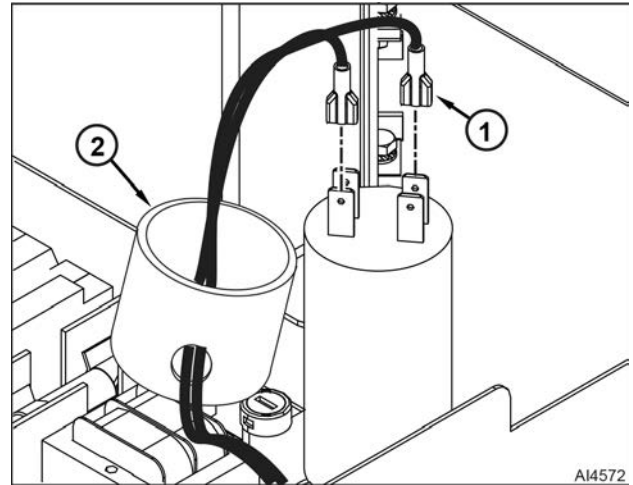

Fig. 23
3. Remove capacitor cover (2, Fig. 23).
5. Note and disconnect electrical wires / spade lugs (1, Fig. 23) from capacitor.
7. Lift up left side of electronics mounting plate (2, Fig. 23) and loosen nut (1, Fig. 23) that secures capacitor to electronics mounting plate.